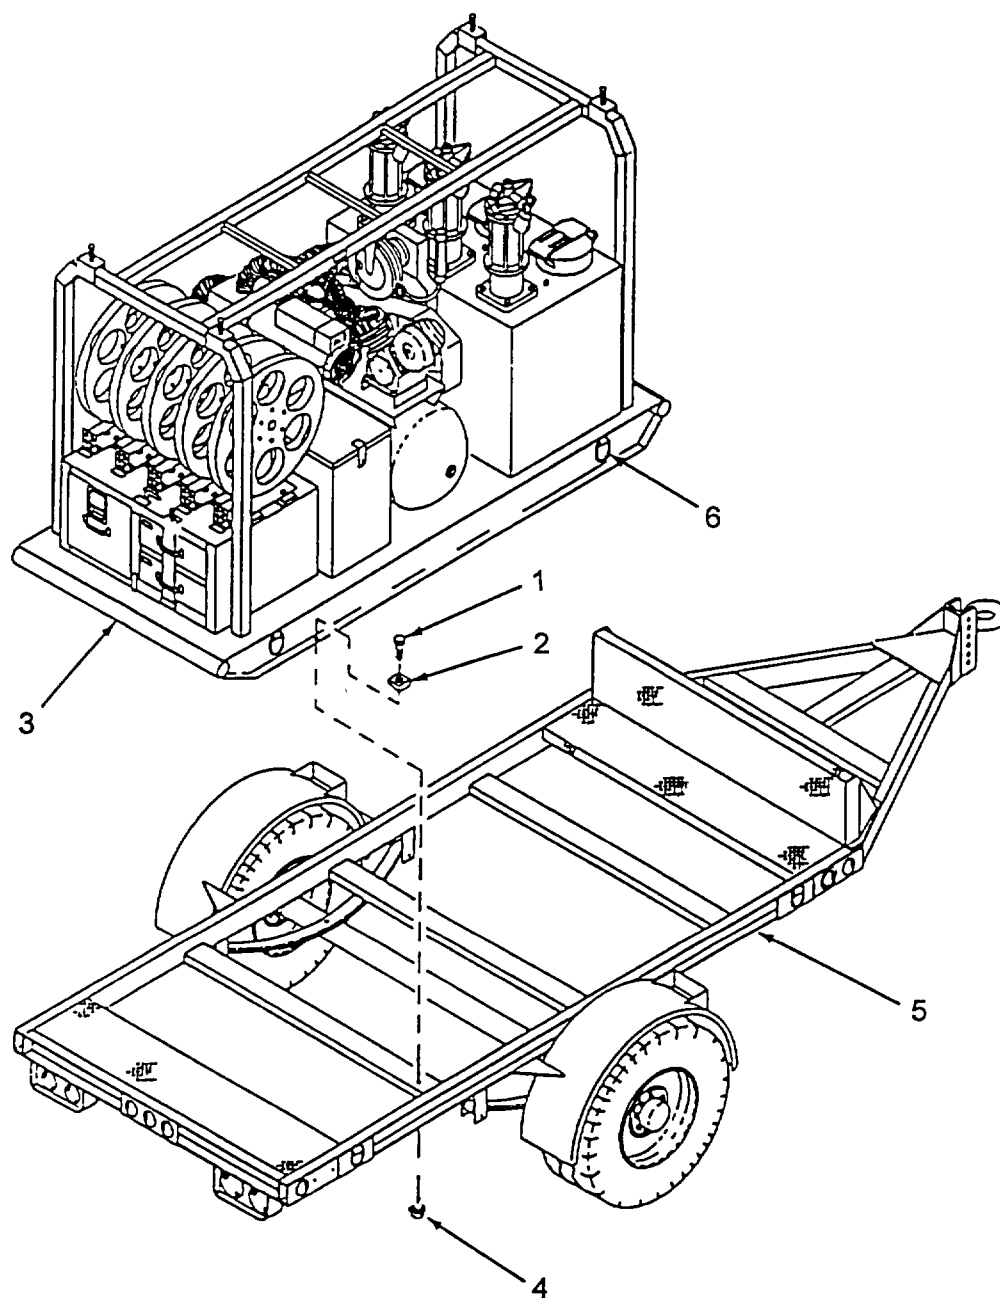

Figure 5-1. Skid Assembly
a. Removal. (Refer to Figure 5-1).
- (1) Remove six bolts (1), six beveled washers (2), from skid assembly (3), six self-locking nuts (4) from trailer (5). Discard six self-locking nuts.
- (2) Attach and secure chains to lifting rings (6).
- (3) Attach and secure other ends of chains to lifting device.
- (4) Slowly lift skid assembly (3) off trailer (5). Place skid assembly (3) on firm level surface.